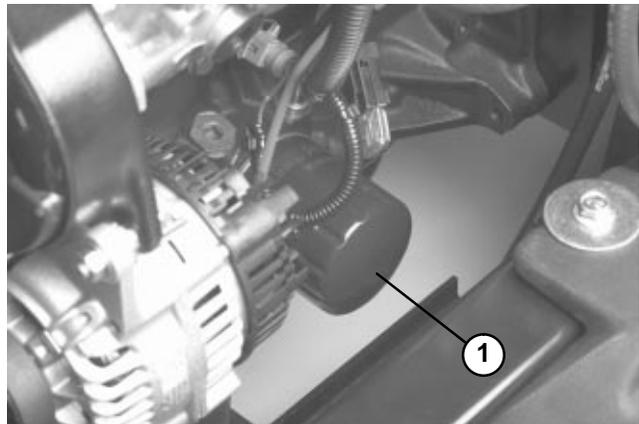

Figure 21
2. Remove oil filter (Fig. 21). Apply a light coat of clean oil to the new filter seal before screwing it on. **DO NOT OVER-TIGHTEN.**